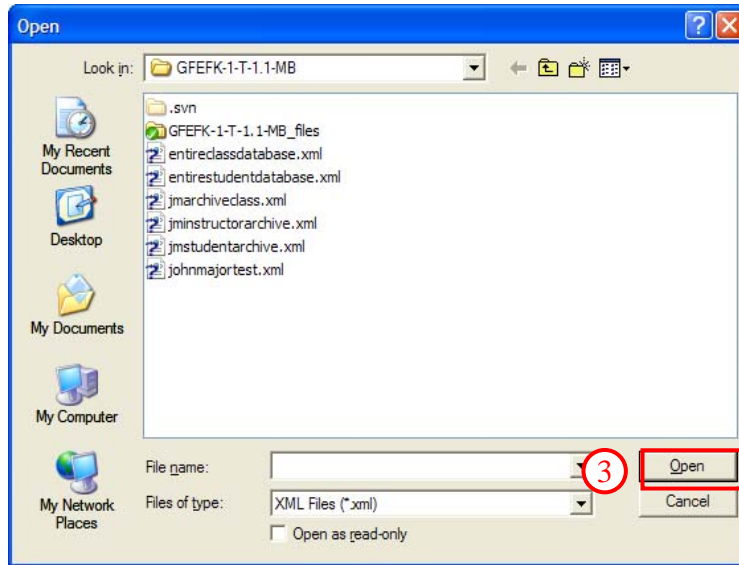

Figure 64. Retrieve Student - Open Dialog
3. An *Open* dialog is displayed (Figure 64). Navigate to the desired location, select a **File name** and click the [OPEN] button.